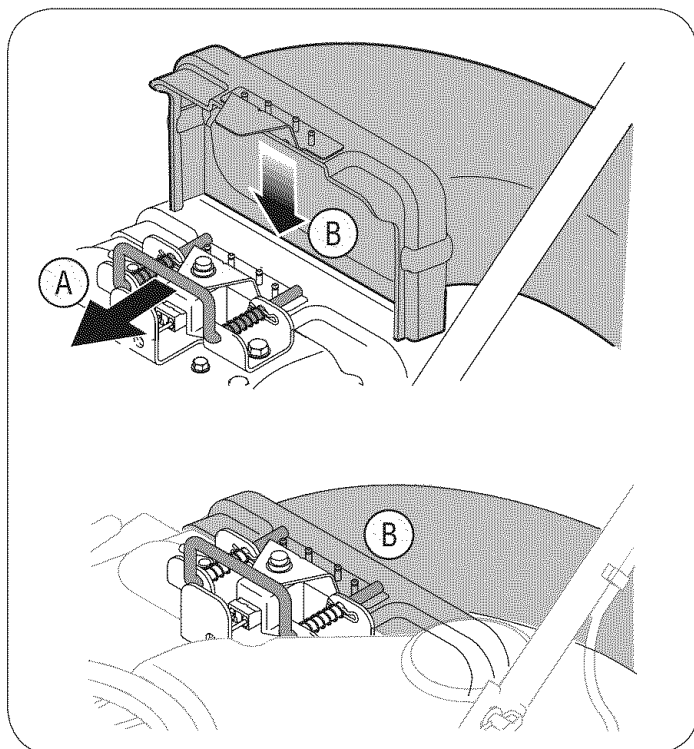

Figure 8
- a. Grasp blower chute with one hand and slide locking rod on mounting bracket with other hand toward engine. Use the end of mounting bracket as leverage when sliding the locking rod. See Figure 8.
- b. Slip blower chute over rim of discharge opening and release locking rod to secure chute in place, as in Figure 8.